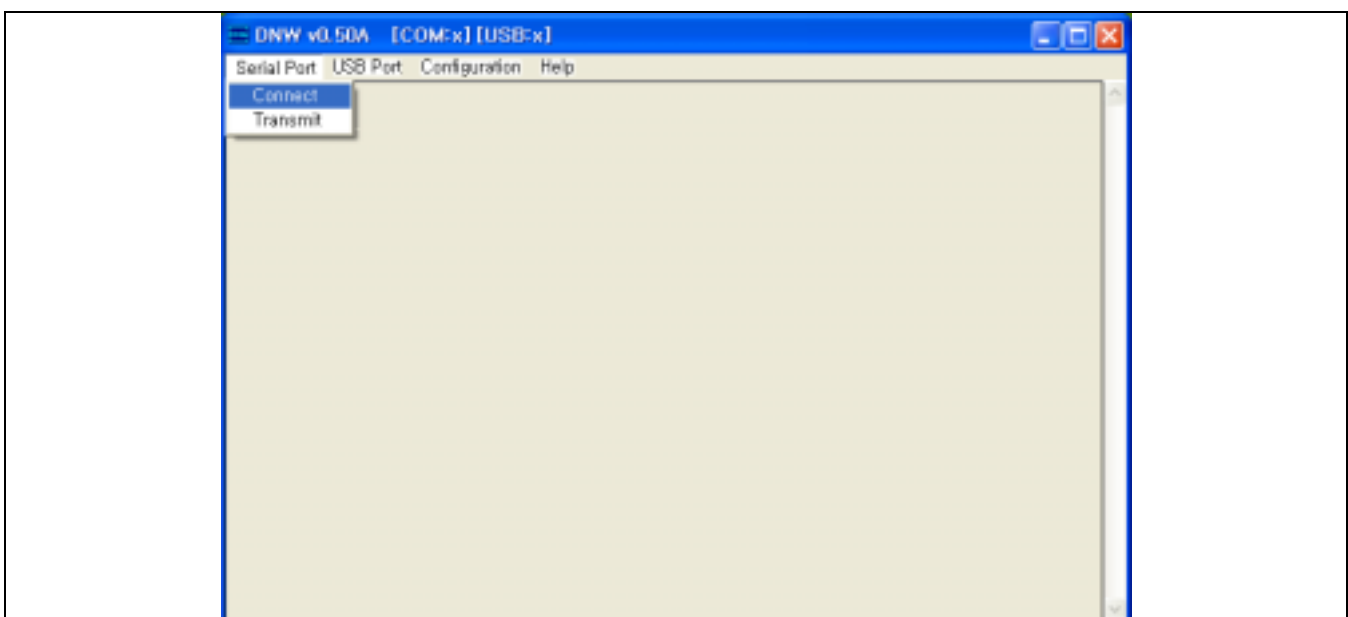

Figure 3-2. DNW Window (to Connect Serial Port)
2. Select Serial Port on the system menu of DNW and click Connect to open the serial port (See Figure 3-2, 3).